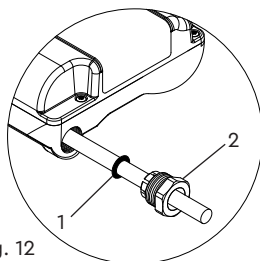

Fig. 12
To enable correct assembly of the cable gland, the 'O'-ring (Fig. 12 item 1) must be placed over the cable before the clamping insert (Fig. 12 item 2) can be tightened as shown.